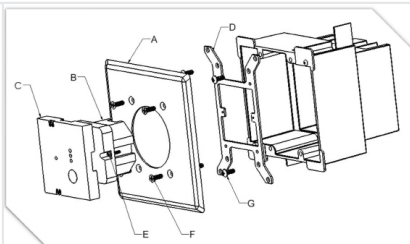
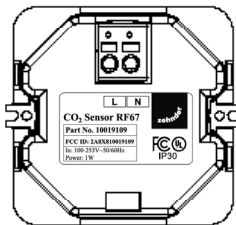

Figure 4.1 - CO₂ RF67 (110V) Sensor
Figure 4.2 - Rear of CO₂ RF Sensor
Report damage, missing parts or incorrect delivery based on the identification plate on the back of the CO₂ Sensor (Figure 4.1 and Figure 4.2) directly to your local Zehnder office. Contact details can be found at the back of this installation manual.
3. Attach the adapter plate 'D' (figure 4.1) to the plastic 2 gang box with 4 screws 'G'.